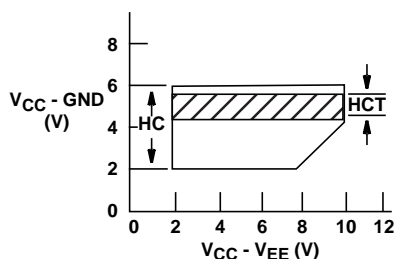

FIGURE 2.
In addition these devices contain logic-level translation circuits that provide for analog signal switching of voltages between $\pm 5V$ via 5V logic. Each switch is turned on by a high-level voltage on its select input (S) when the common Enable (E) is Low. A High E disables all switches. The digital inputs can swing between V_{CC} and GND; the analog inputs/outputs can swing between V_{CC} as a positive limit and V_{EE} as a negative limit. Voltage ranges are shown in Figures 2 and 3.
HC, HCT Types (Figure 2)	.2V to 10V